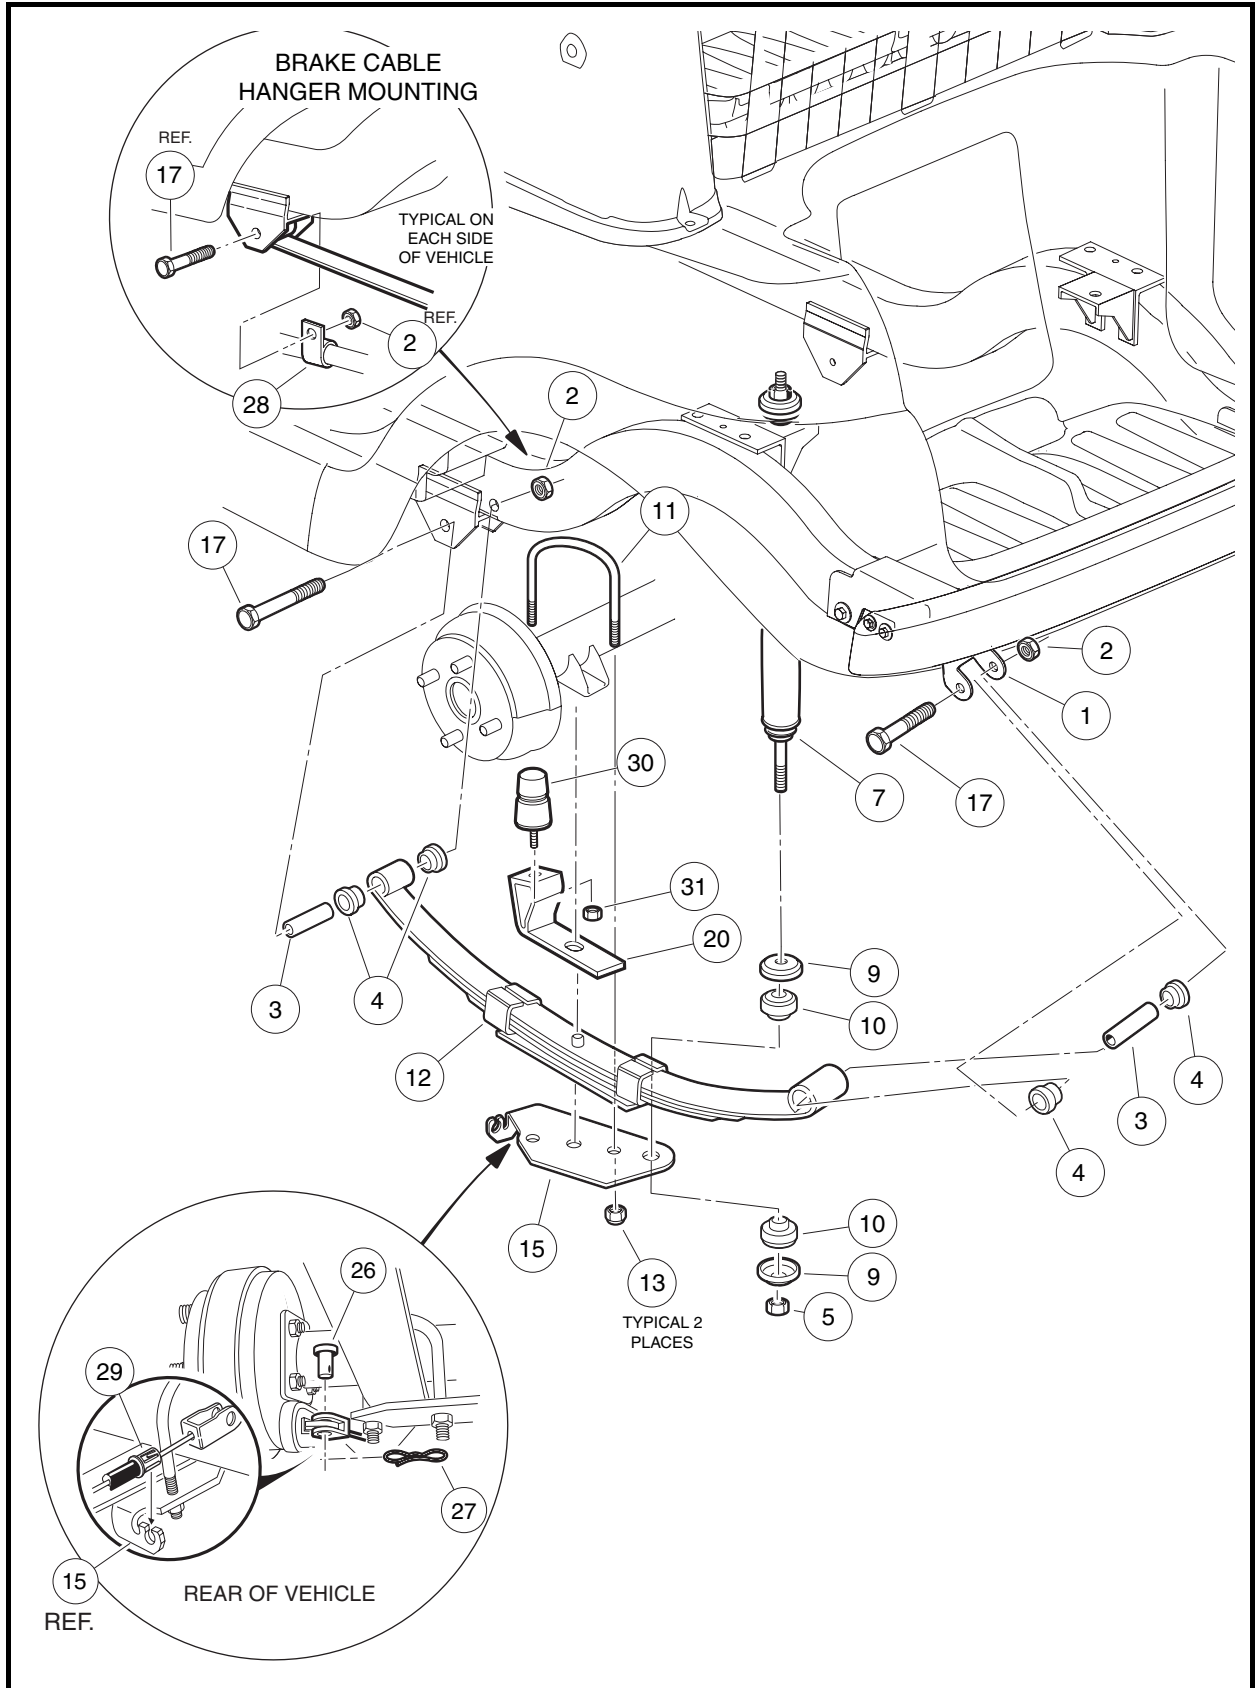

Figure 9-4 Rear Suspension Assembly and Mounting (Four-Passenger Vehicles)
1. Check shock absorbers (7) for damage or fluid leakage at the point where the shaft enters the shock absorber body. Replace damaged or leaking shock absorbers (**Figure 9-1, Page 9-2 or Figure 9-4, Page 9-5**).
2. To remove a shock absorber, remove the nut (5), cup washer (9) and rubber bushings (10) from the stem at the top of the shock absorber.
3. Remove the nut (5), cup washer (9), and rubber bushings (10) from lower mounting stem.
5. Remove the nut (5), cup washer (9), and rubber bushings (10) from the lower mounting stem of the shock absorber **(Figure 9-4, Page 9-5)**.
6. Remove the nuts (13) and the U-bolt (11) securing the spring and jounce bumper to the transaxle. Remove the shock mount bracket (15), jounce bumper bracket (20), and the U-bolt (11).
7. Remove the bolt (17) and nut (2) attaching the rear of the spring to the shackle (1).
8. Remove the nut (2) and bolt (17) attaching the front of the spring to the vehicle frame and remove the spring.
9. Inspect the bushings (4) and sleeves (3) in the spring eyes and replace them if they are worn or damaged.
3. Tighten nuts (2) on spring mounting bolts (17) to 15 ft-lb (20.3 N·m) (**Figure 9-4, Page 9-5**).